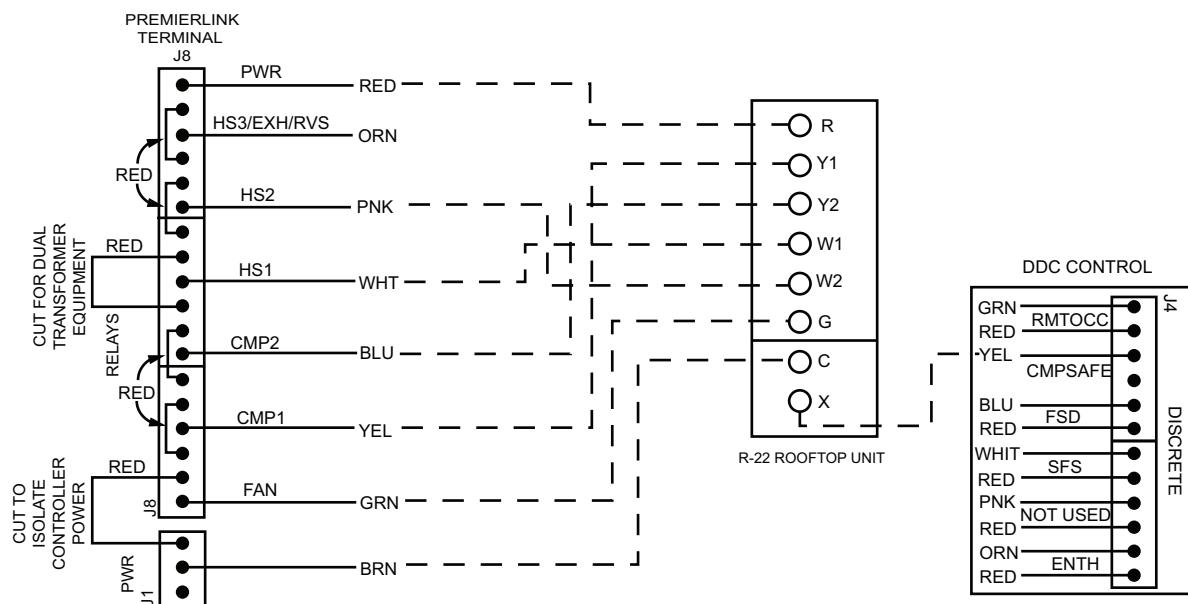

Fig. 10 — Power Exhaust Harness Installation with EconoMi\$er2 and PremierLink Controls
10. *Field-Installed PremierLink Control (See Fig. 10):* Connect the gray wire from the low voltage extension harness to J8-3 and the tan wire to common terminal. Common is available from PremierLink terminal J1 or the common side of the unit control power transformer (the brown leads that go to unit ground). The other end of the harness is connected to the power exhaust wiring.